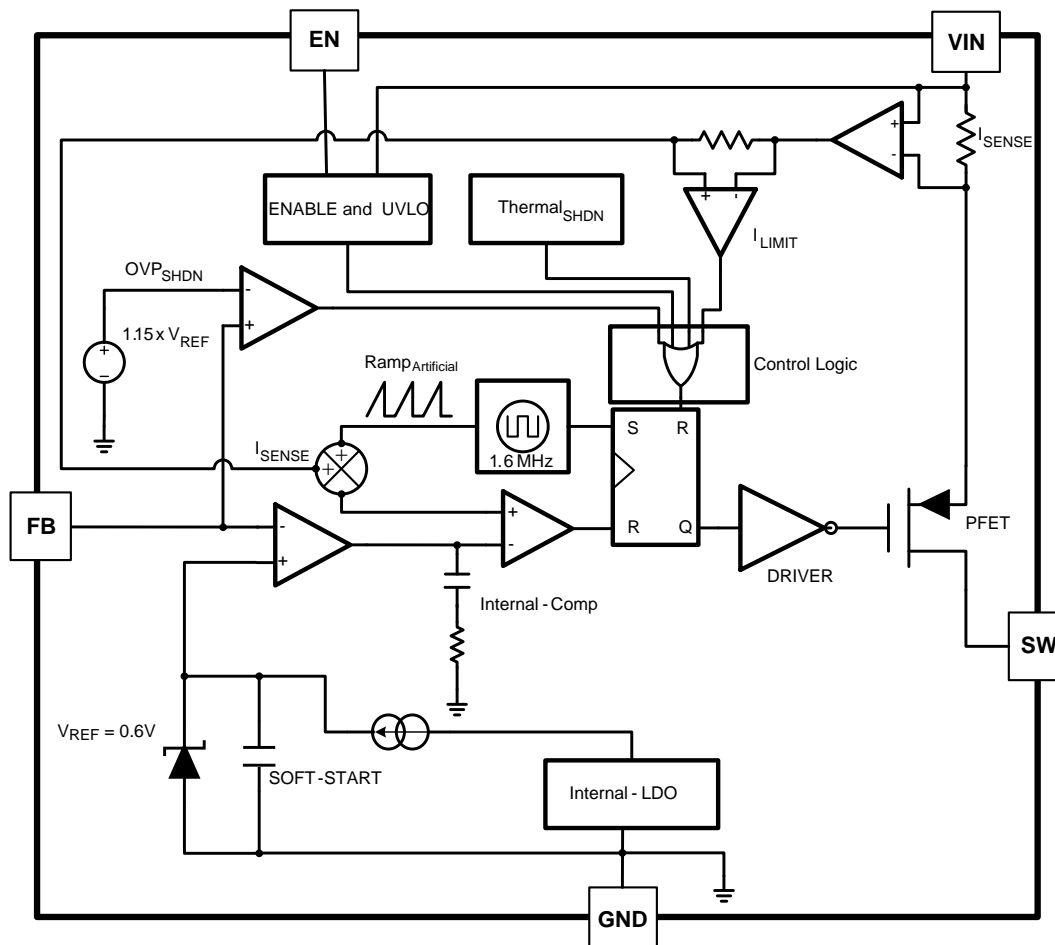
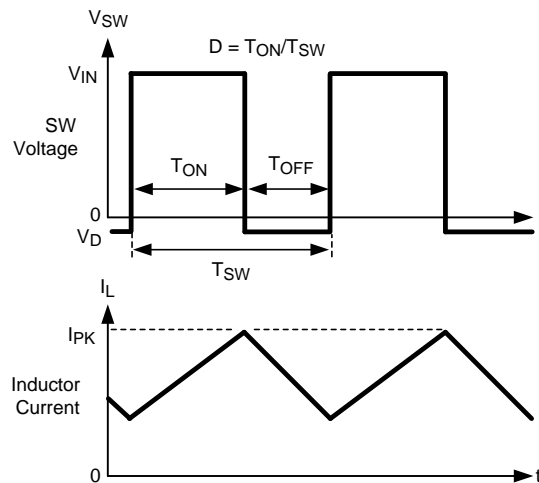

Figure 23.
Figure 24. Typical Waveforms
The LM2832 is a constant frequency PWM buck regulator IC that delivers a 2.0A load current. The regulator has a preset switching frequency of 1.6MHz or 3.0MHz. This high frequency allows the LM2832 to operate with small surface mount capacitors and inductors, resulting in a DC/DC converter that requires a minimum amount of board space. The LM2832 is internally compensated, so it is simple to use and requires few external components. The LM2832 uses current-mode control to regulate the output voltage. The following operating description of the LM2832 will refer to the Simplified Block Diagram (Figure 23) and to the waveforms in Figure 24. The LM2832 supplies a regulated output voltage by switching the internal PMOS control switch at constant frequency and variable duty cycle. A switching cycle begins at the falling edge of the reset pulse generated by the internal oscillator. When this pulse goes low, the output control logic turns on the internal PMOS control switch. During this on-time, the SW pin voltage ( $V_{SW}$ ) swings up to approximately  $V_{IN}$ , and the inductor current ( $I_L$ ) increases with a linear slope.  $I_L$  is measured by the current sense amplifier, which generates an output proportional to the switch current. The sense signal is summed with the regulator's corrective ramp and compared to the error amplifier's output, which is proportional to the difference between the feedback voltage and  $V_{REF}$ . When the PWM comparator output goes high, the output switch turns off until the next switching cycle begins. During the switch off-time, inductor current discharges through the Schottky catch diode, which forces the SW pin to swing below ground by the forward voltage ( $V_D$ ) of the Schottky catch diode. The regulator loop adjusts the duty cycle (D) to maintain a constant output voltage.